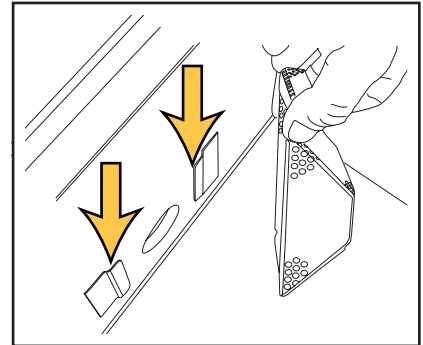

Fig. 32 - Pump suction strainer
5. Make sure that the pump suction screen is in place (see Fig. 32).